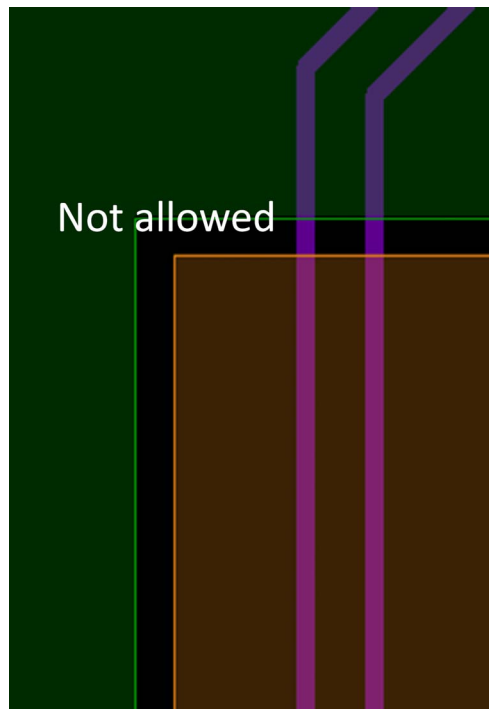

Figure 4-17: Signal Routing Over Reference Plane Split
3. Avoid routing over reference plane splits, see Figure 4-17.